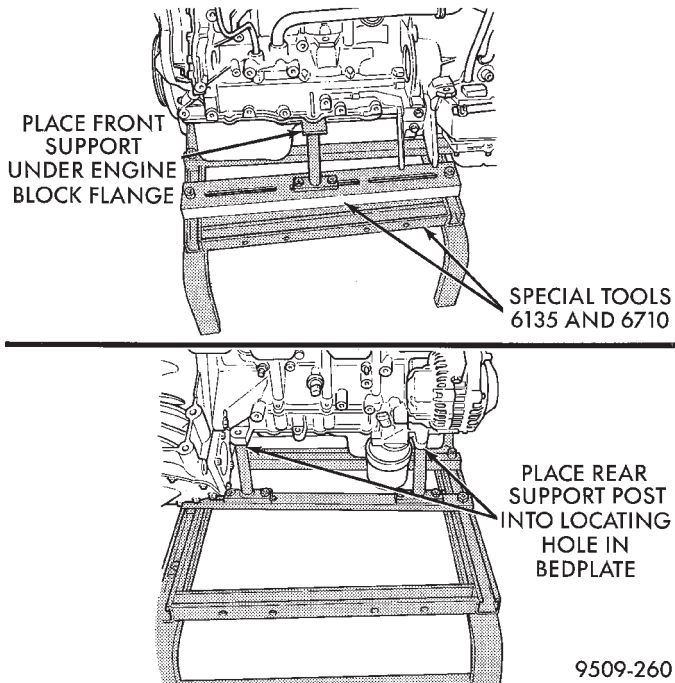

Fig. 19 Positioning Engine Cradle Support Post Mounts
(21) Raise vehicle enough to allow engine dolly and cradle Special Tools 6135 and 6710 to be installed under vehicle.
(22) Loosen engine support posts to allow movement for positioning onto engine locating holes and flange on the engine bedplate. Lower vehicle and position cradle until the engine is resting on support posts (Fig. 19). Tighten mounts to cradle frame. This will keep support posts from moving when removing or installing engine and transmission.
(23) Install safety straps around the engine to cradle; tighten straps and lock them into position.
(24) Raise vehicle enough to see if straps are tight enough to hold cradle assembly to engine.
(25) Lower vehicle so weight of the engine and transmission ONLY is on the cradle assembly.
(26) Remove right and left engine/transmission mount vertical bolts.
(27) Raise vehicle slowly. It may be necessary to move the engine/transmission assembly with the cradle to allow for removal around body flanges.